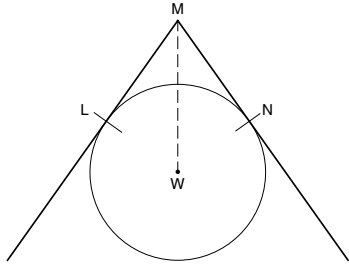

Figure 3-16. Lines MN and ML are tangent to the circle and share an endpoint and are, therefore, equal in length.
- **Two tangent lines drawn to a circle from the same exterior point cause the corresponding segments to be equal in length.** Thus, in **Figure 3-16**, Segment ML equals Segment MN.